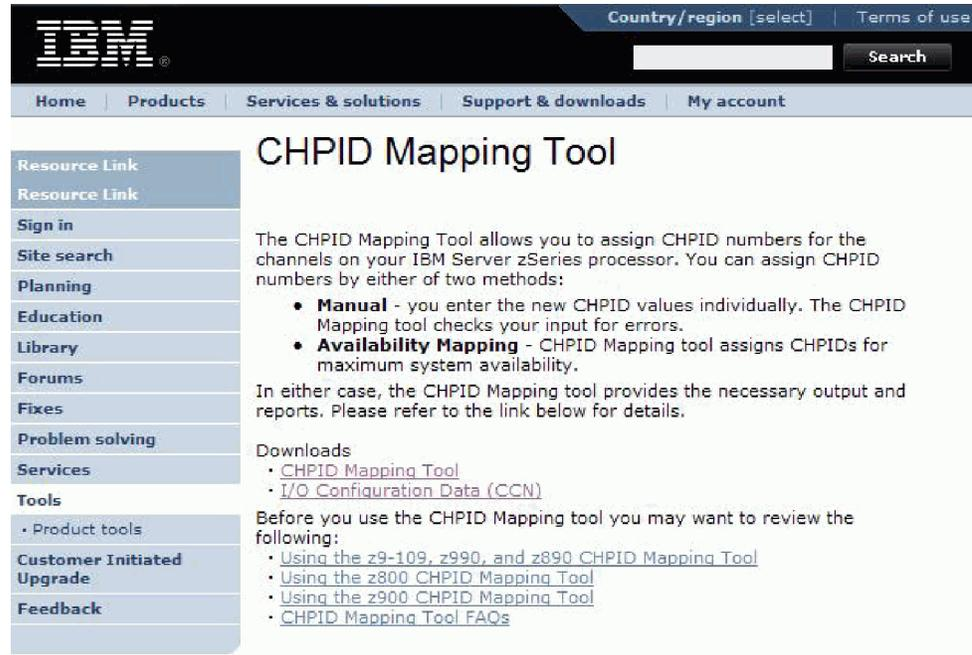

Figure 3. The CHPID Mapping Tool Window
3. In the list of tools in the Tools window, click **CHPID Mapping Tool**. This displays the CHPID Mapping Tool window (Figure 3 on page 7):